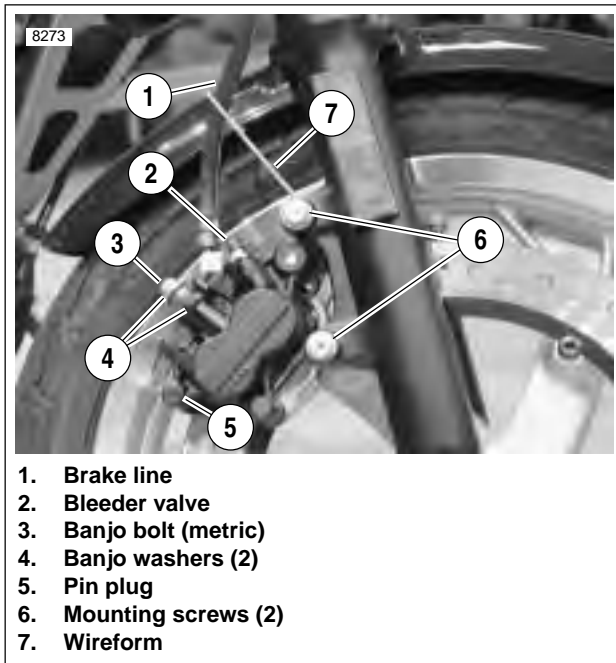

Figure 2-3. Front Brake Caliper
- a. See Figure 2-3. Remove pin plug (4).
4. See Figure 2-3. Detach caliper from mounts.
- a. Remove lower mounting screw (6).
- b. Remove upper mounting screw (6) and brakeline wireform (7) while supporting caliper above brake rotor.